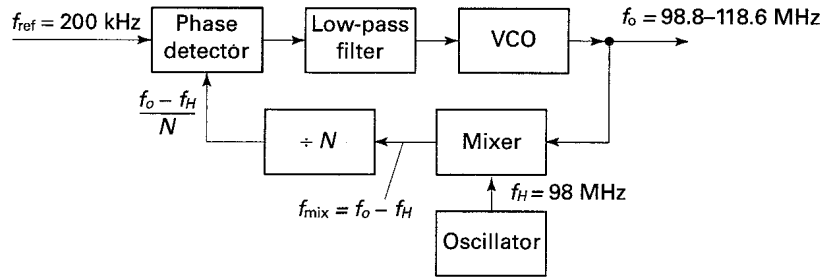

Fig. 2-17
**EXAMPLE 2.9.** Figure 2-17 shows a heterodyne-down conversion frequency synthesizer which produces one hundred different output frequencies in a range from 98.8 to 118.6 MHz. Each available output frequency is separated by 200 kHz. Calculate the minimum and maximum values for the  $\div N$  factor.